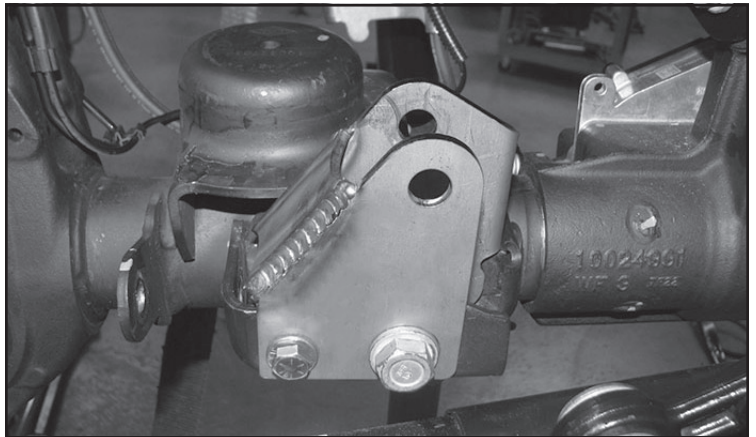

**FIGURE 7 - STEP 9**
9. Install FT50617 (Front track bar bracket) to the factory mount using stock bolt. **SEE FIGURE 7.** Mark the front hole to drill using the new bracket as a guide. Remove and drill the hole to 3/8". Sand the factory bracket down to bare metal. **SEE FIGURE 8**